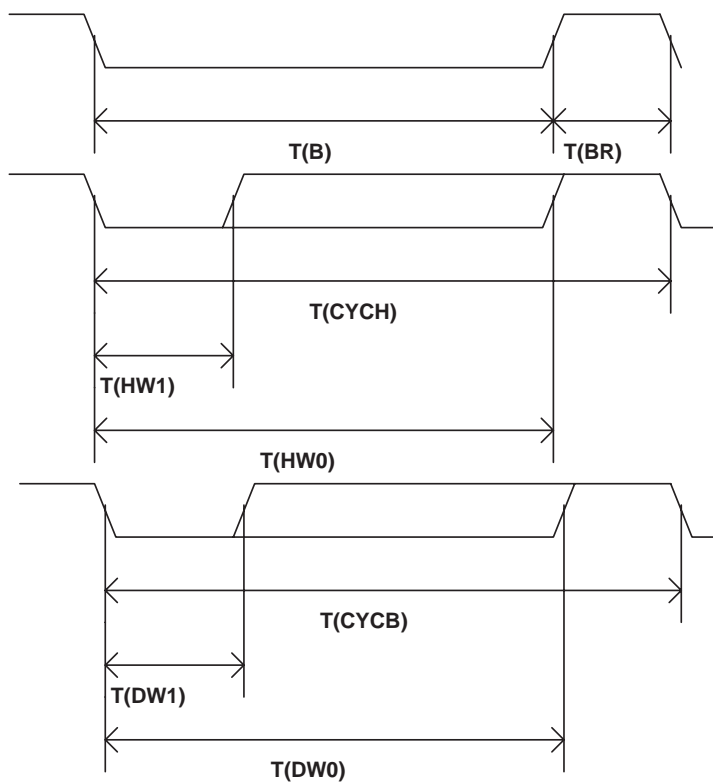

Figure 1. HDQ Timing Diagram
**standard serial communication (HDQ) timing specification over recommended operating temperature and supply voltage (unless otherwise noted). See Figures 1 and 2.**